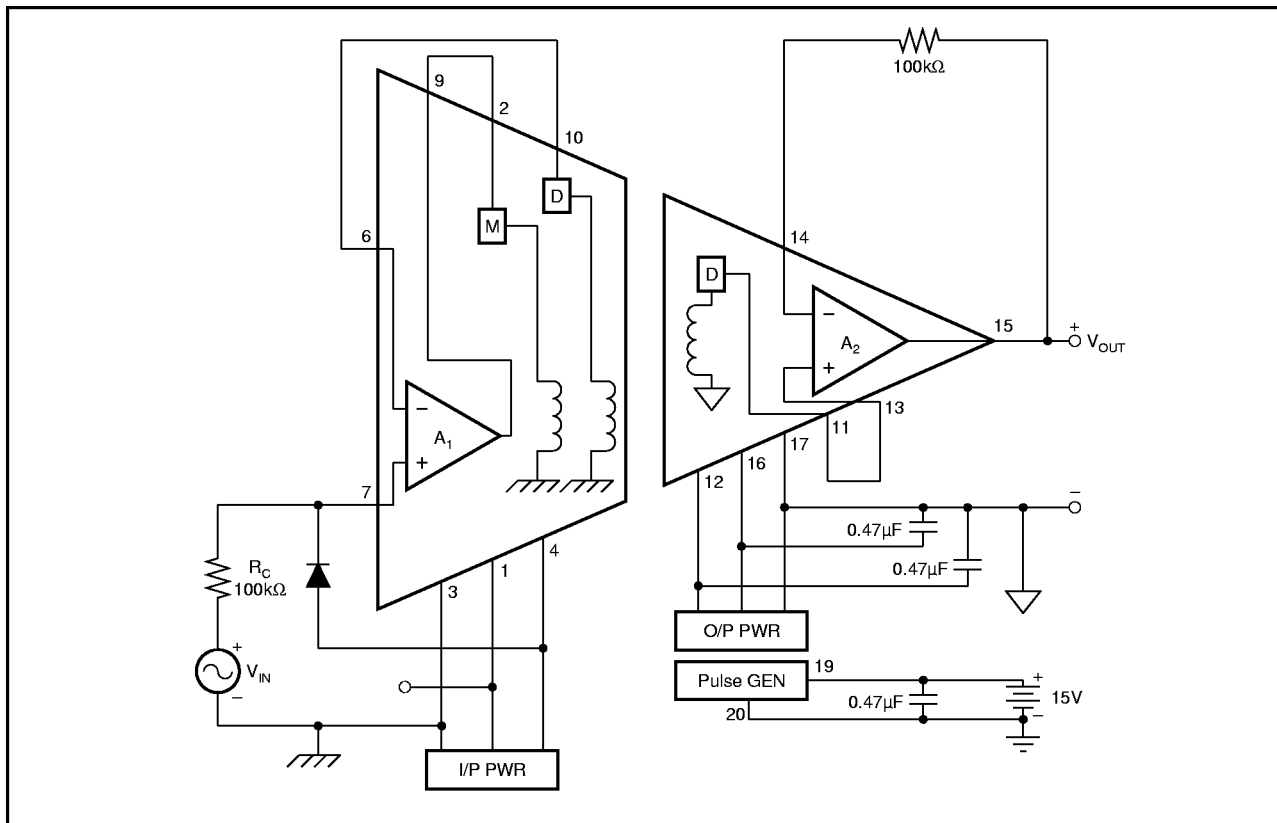

FIGURE 2. Power: Three-Port Isolation; Signal: Unity-Gain Noninverting.
- The input voltage at pin 7 (noninverting input to  $A_1$ ) must not exceed the voltage at pin 4 (negative supply voltage for  $A_1$ ) in order to prevent a possible lockup condition. A low leakage diode connected between pins 7 and 4, as shown in Figure 2, can be used to limit this input voltage swing.
NOTE: Figures 2, 3 and 4 are used to illustrate both signal and power connection configurations. In the circuits shown, the power and signal configurations are independent so that any power configuration could be used with any signal configuration.
The power supply connections in Figure 2 show the full three-port isolation configuration. The system has three separate grounds with no galvanic connections between them. The two external  $0.47\mu\text{F}$  capacitors at pins 12 and 16 filter the rectified isolated voltage at the output stage. Filtering on the input stage is provided by internal capacitors. In this configuration continuous isolation voltage ratings are: 3500V between pins 3 and 17; 3500V between pins 3 and 19; 1000V between pins 17 and 19.
The signal path portion of Figure 2 shows the 3656 is its simplest gain configuration: unity gain noninverting. The two  $100k\Omega$  resistors provide balanced resistances to the inverting and noninverting inputs of the amplifiers. The diode prevents latch up in case the input voltage goes more negative than the voltage at pin 4.